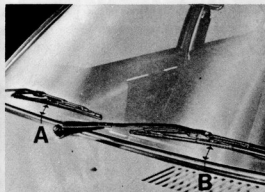

Fig. 10.17. Correct position of wiper blades
- 5 With the wiper spindles in the 'parked' position, refit the blades in the positions shown in Fig. 10.17.